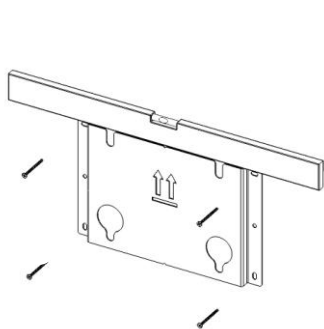
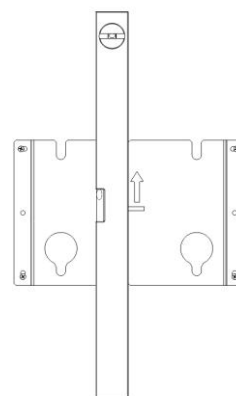
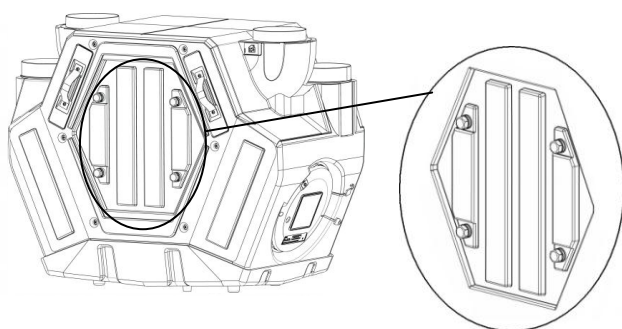
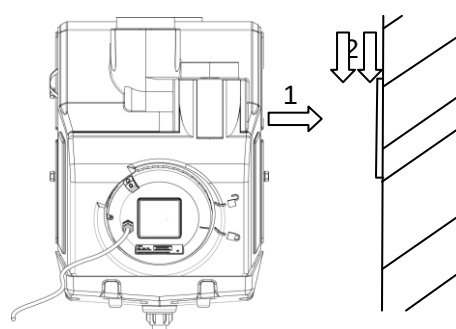

Figure 4
Figure 6
Figure 7
Figure 8
- 2.3.3 Use a spirit level to assist mounting and levelling the bracket (See Figures 4 & 5). Use 'V' slots located top and bottom of bracket to mark a vertical pencil line (See Figure 6), and securely fix bracket to wall using suitable fixings. Total product weight when running 20kg.
- 2.3.4 The HRV2HT unit fixes to the bracket by aligning the four mounting studs on the rear panel (See Figure 7), with the large holes and slots on the fixing bracket (See Figure 4 or 5). You can also use the pencil line drawn earlier as a guide (See Figure 6), using the V cut out on the front of the product to align. Once the mounting studs are located correctly, slide the product downwards so that it is securely mounted to the wall (See Figure 8).